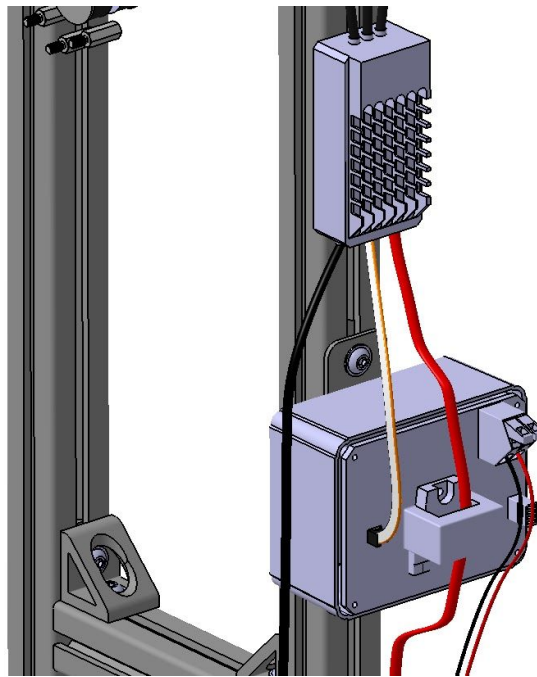

Fig. 5.2: Positive DC input passes through the opening of the current sensor.
- ❑ Pass the positive wire of the ESC through the hall sensor on the power sensor to measure the current. Use two wires to make a connection between the positive and negative output on the power source and the voltage measurement connector on the power and control console for the voltage measurement. Put the power and control console as close as possible to your ESC, as shown in Fig 5.2.